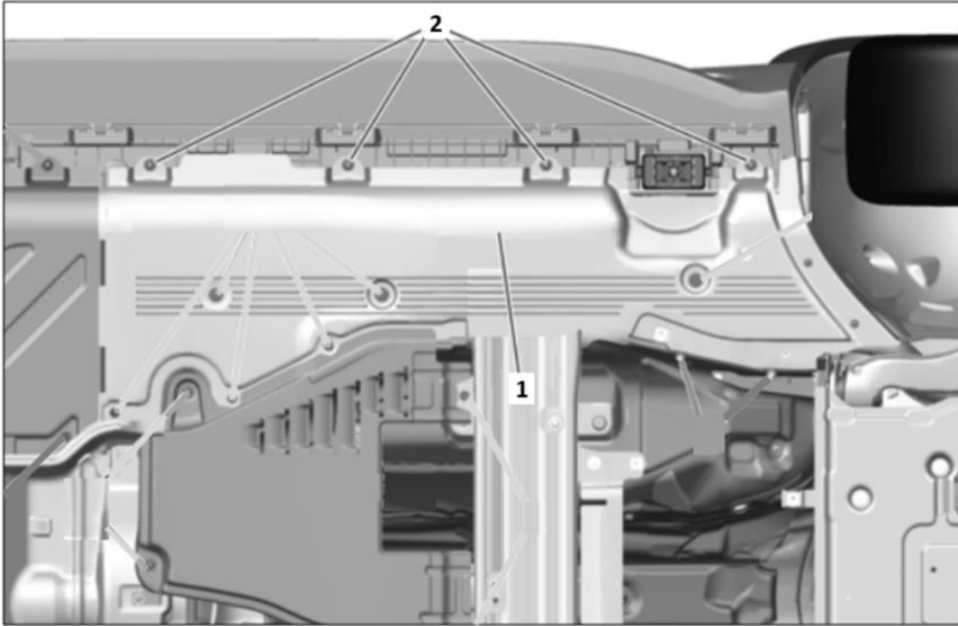

Figure 1
1. Remove the right front underfloor paneling (**1, Figure 1**).
Fasten right front underfloor paneling (**1, Figure 1**) and **end measure**.